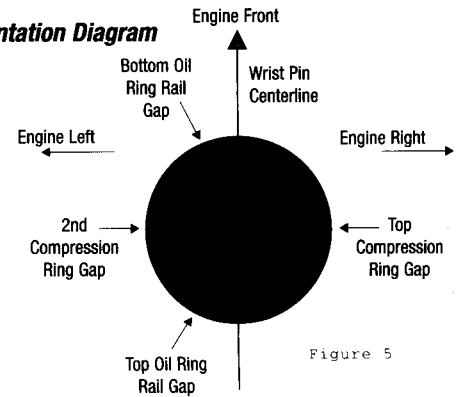

Figure 5
2. Install top oil ring rail in a counter-clockwise direction and the bottom rail in a clockwise direction with gaps positioned as in the ring installation diagram. (fig. 5)